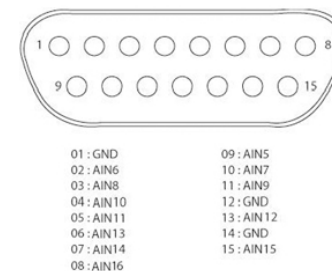

Figure 3.3.6 The Audio Pin Assignments
3. Refer to Figure 3.3.6 when connecting devices with D-SUB cables.